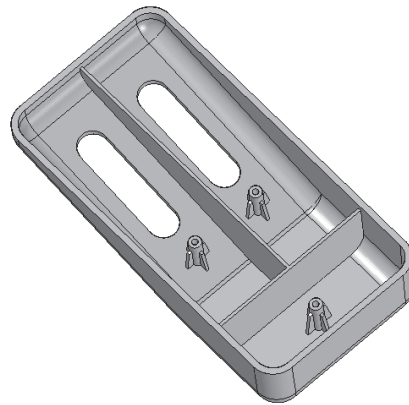

Figure 8-64 Final model after creating the mounting bosses
- g. Add mounting bosses to the model, refer to Figure 8-64.
6. Exit the sketching environment and specify the direction of the feature creation downward. Choose the **Finish** button to complete the tool. The final model of the cover, after creating the mounting bosses, is shown in Figure 8-64.